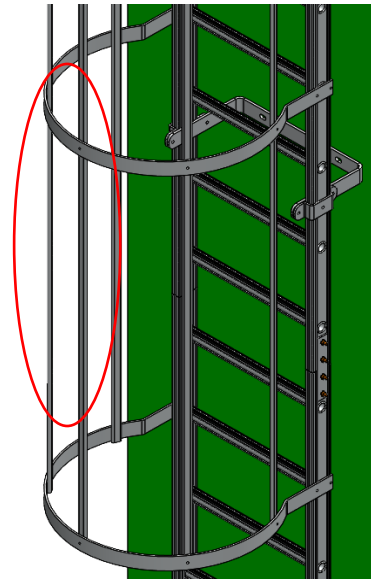

Figure 6
- If a ladder is longer than the extrusion of the ladder (see figure 6) or if transport to site needs to be delivered in smaller sections, a ladder division is used.
- If a ladder is longer than the extrusion of the oval (see figure 6) or if transport to site delivered in smaller sections have to be, a caged division is used.